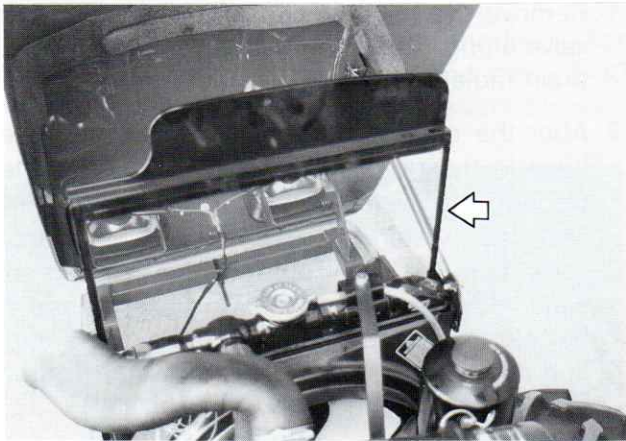

Figure 46 — Radiator Screen
5. Clean the radiator front screen, Figure 46.